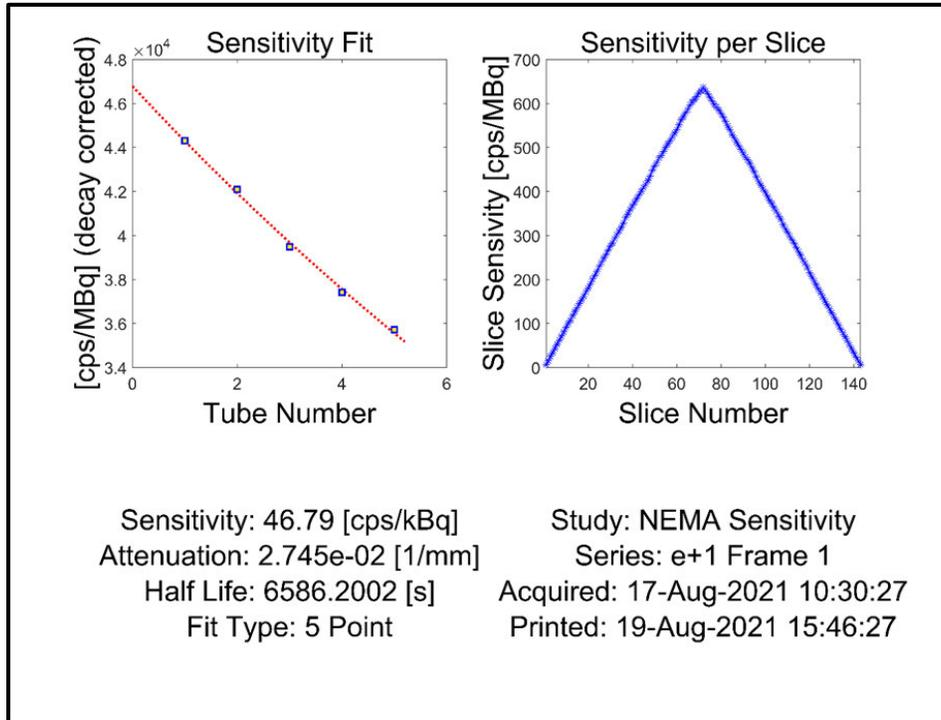

Figure 3.10: Sensitivity Report Screen (example for Omni Legend 32 cm axial FOV).
10. After several seconds of calculation, the system displays a Sensitivity Report screen similar to the one shown in Figure 3.10.